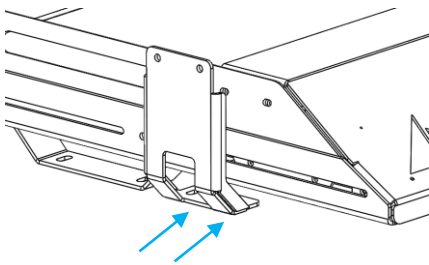
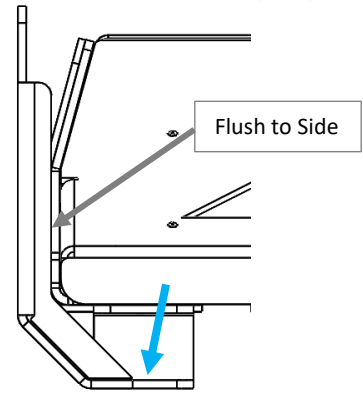

Figure 2: Awning Bracket Installation onto Track System
Figure 3: Side View of Awning Bracket Installation
4. Install the awning brackets over the threaded inserts. Use the supplied  $\frac{1}{4}$ "-20 nuts and fender washers to fasten to the roof tracks (Figure 2 and Figure 3).